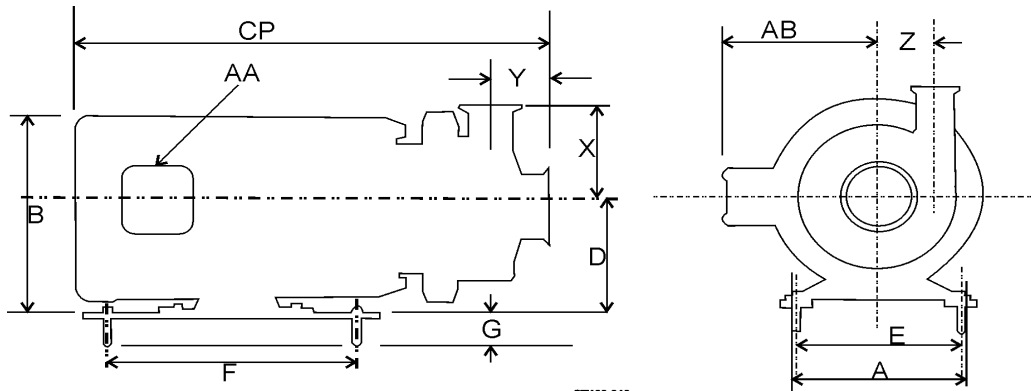

Figure 6 - Foot Print Dimensions
**NOTE:** Figure 6 dimensions for the Inlet, Outlet, items X,Y and Z are listed in Table on page 18.